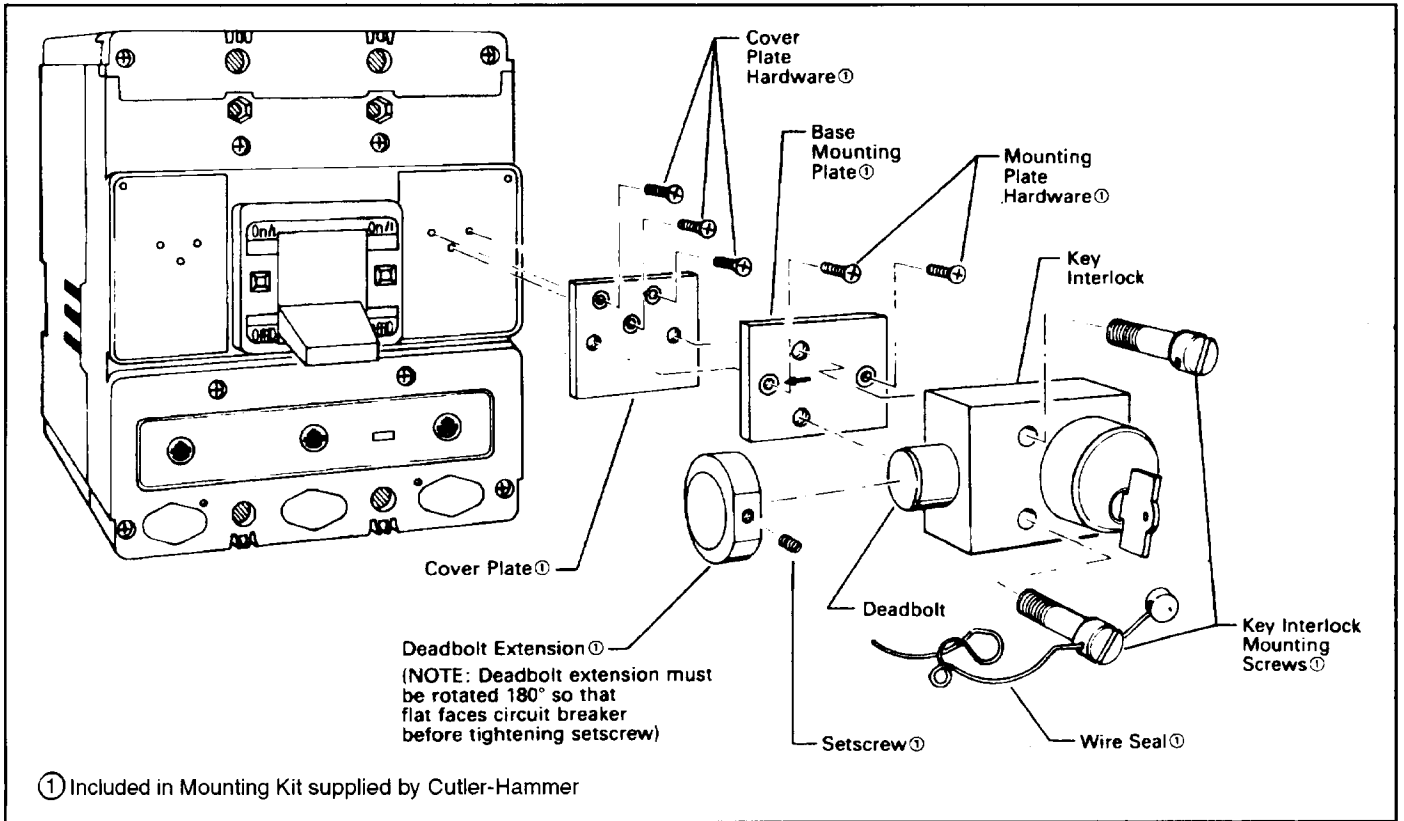

Fig. 2-1 Key Interlock Installation
- 2-1. Mounting holes are located in the cover under the nameplate. Find the mounting holes using the locating marks in the nameplate. (See Fig. 2-1.)
- 2-3. Position cover plate on circuit breaker cover. Align mounting holes. (Fig. 2-1.)
- 2-6. Assemble bolt extension to deadbolt with flat area towards circuit breaker. Secure with setscrew provided (Fig. 2-1).
- 2-7. Position key interlock (deadbolt in withdrawn position) on base mounting plate. Align mounting holes (Fig. 2-1).